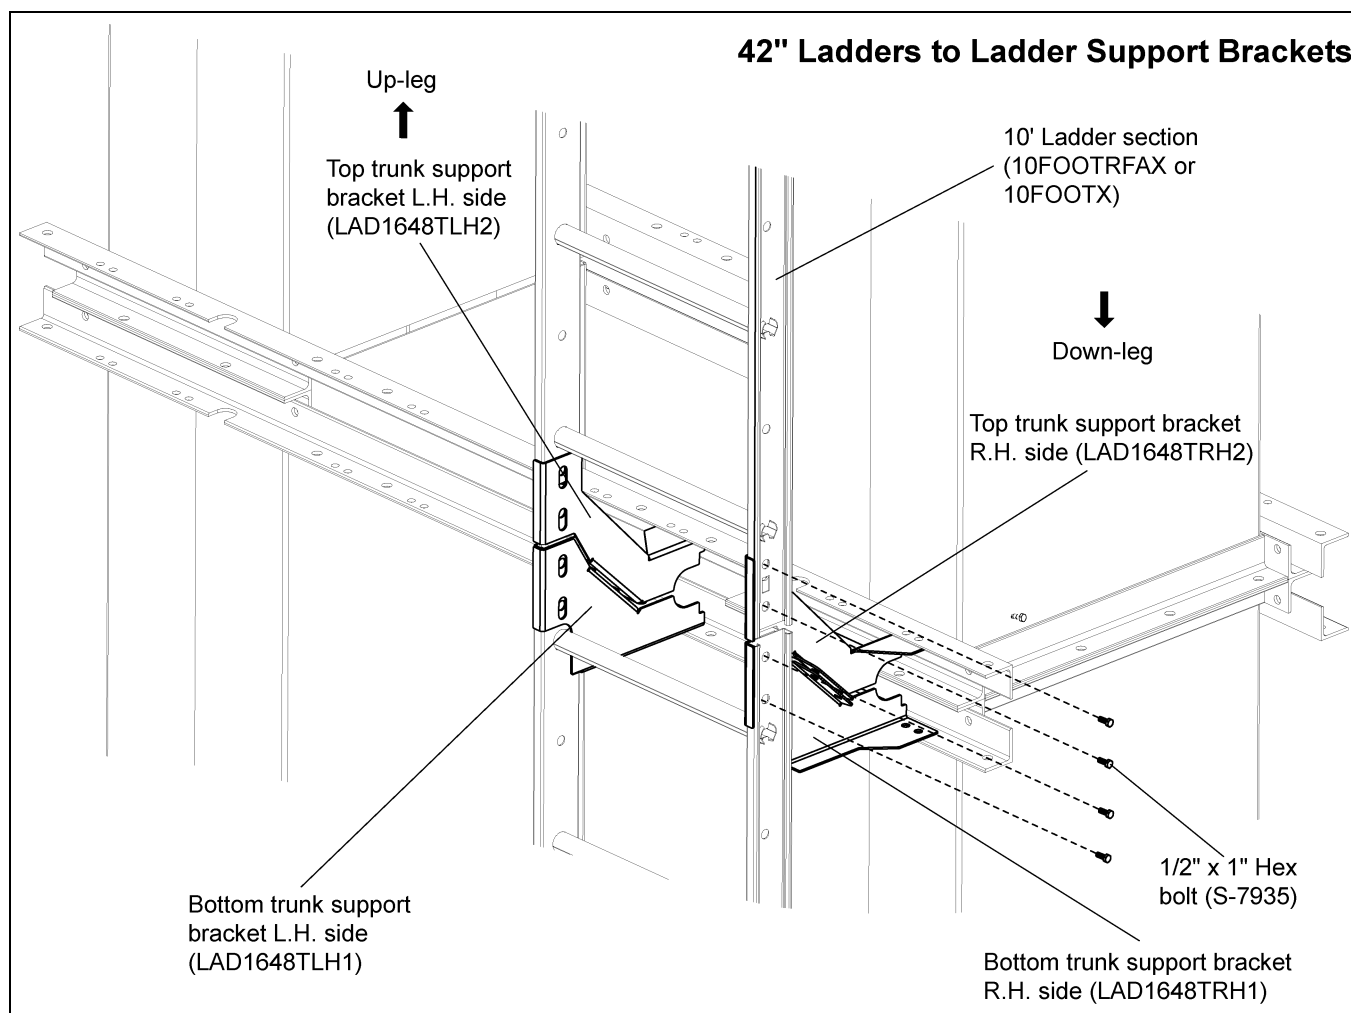

Figure 6Q
3. Fasten ladders to ladder support brackets using 1/2" x 1" HHCS bolts (S-7935) and 1/2" flange nuts (S-8506). (See Figure 6Q for 42" connections.)